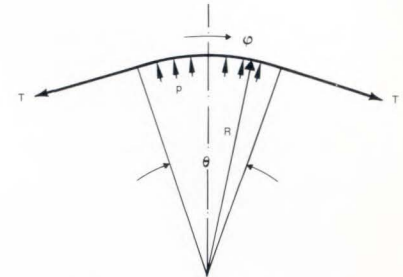

FIGURE 2. Tape with Constant Pressure  $p$
**Pressure Between Head and Tape.** The average pressure between head and tape can be determined by examining the tape itself as a free body and by neglecting bending stiffness effects in the tape. The bending stiffness effects are usually small. A free body diagram is presented in Figure 2, showing the tape with a total wrap angle  $\theta$ , and average gauge pressure  $p$ . The radius of curvature is  $R$ , the tension per unit width is  $T$ . In order to balance forces in the vertical direction, the integral of the vertical component of the pres-